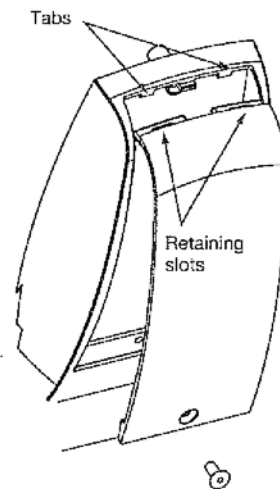

Fig. 4
1. ElectroLynx® System Wiring Instructions (refer to Fig. 1 and Fig. 4)
- a. Look for the mating part on ASSA ABLOY doors & frames. Then plug in all connectors as shown in Fig. 4 during product installation
5. Attach battery cover to inside escutcheon making sure to line up tabs with retaining slots in battery cover. Secure with security screw (Ref. Fig. 4).